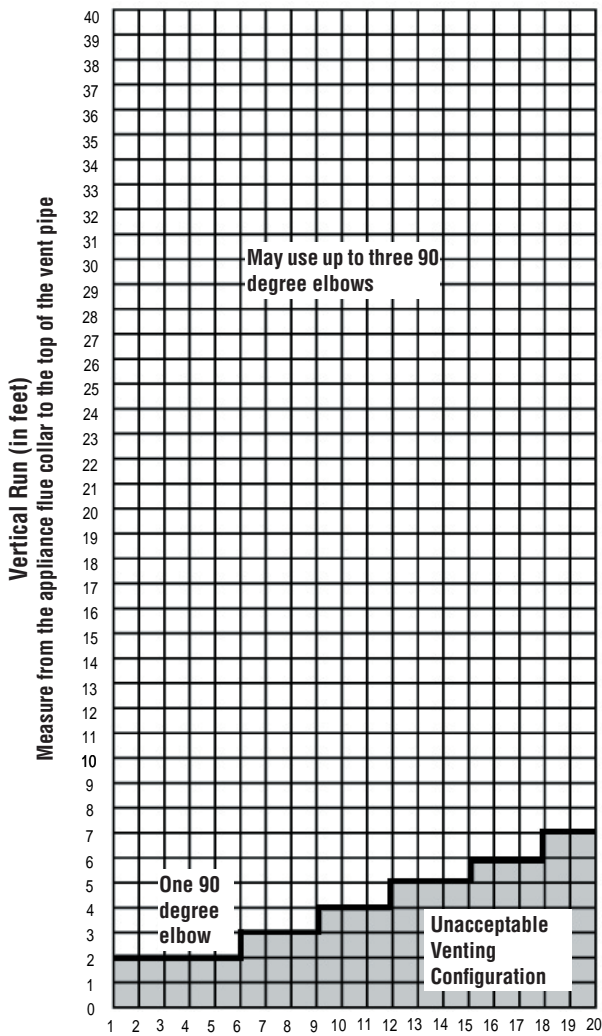

Figure 13
IMPORTANT: Do not exceed the maximum horizontal run allowed (see Figure 13 & 14).
The horizontal run may extend up to 20 feet (6 meters) and include a vertical rise of up to 40 feet (12 meters) - see Figure 13. Horizontal termination must meet the criteria shown in Figures 4 and 5.
- Approved vent systems must terminate above and including the heavy line in Figure 13.